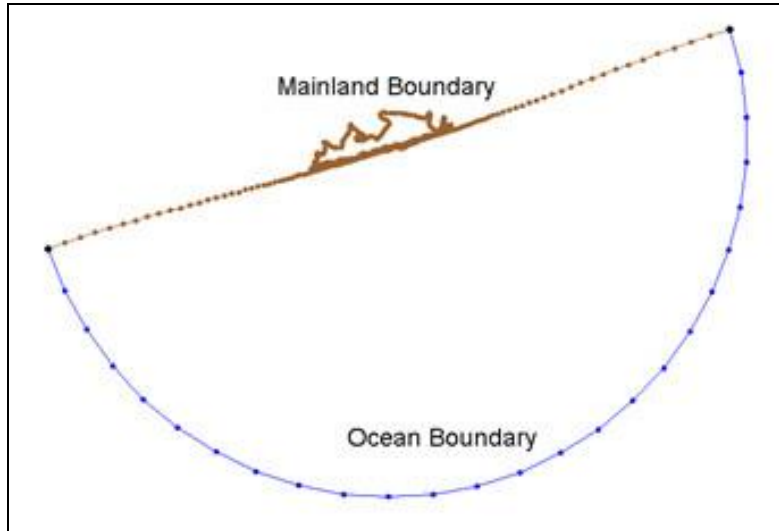

Figure 1 Feature arcs after boundary types have been assigned
1. Using the **Select Feature Arc**  tool, double-click the arc representing the ocean boundary, shown in Figure 1. The *ADCIRC Arc / Nodestring Attributes* dialog will appear.